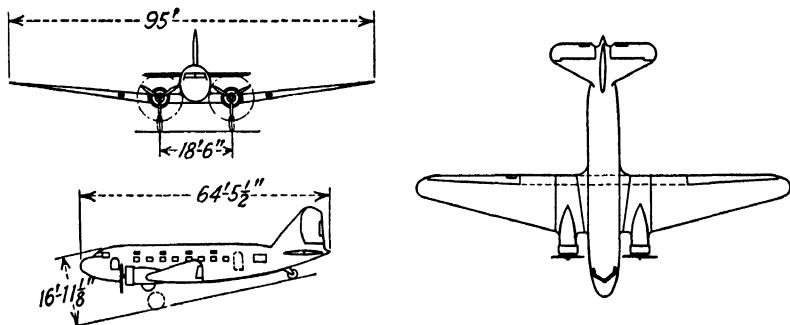

Fig. 172.—Douglas DC-3 24-place monoplane. (Courtesy of Aviation.)
2. Find (a) the wing loading; (b) the power loading; (c) the aspect ratio; (d) the mean chord of the airplane in Fig. 172, which has the following specifications: